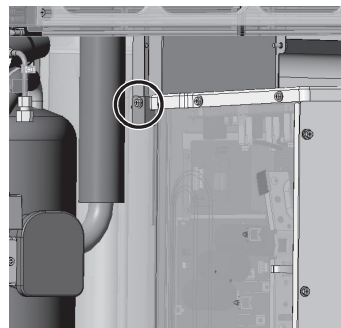

Figure 8
- (8) Remove the duct from the S module by unscrewing one screw. (See Figure 8.)